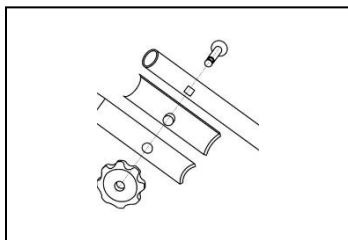

Fig. 3A
- A. Use bolts to pass through the upper and lower hand and the insulating sleeve in turn according to Fig.3A.